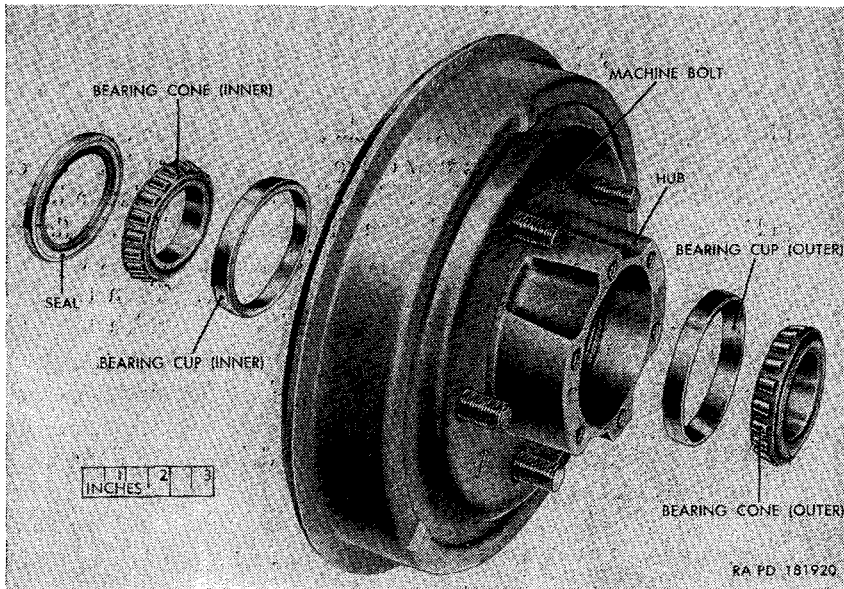

Figure 137. Front hub and drum, inner and outer bearing, and oil seal assemblies—exploded view.
- (1) Follow the procedure described in paragraph 207a(1) through (7).
- (2) Using a brass drift, tap the hub (inner) bearing cone and hub bearing oil seal (fig. 137) out of the hub. Discard oil seal.
- (3) Install the remover and replacer 41-R-2374-845 and screw 41-S-1047-330 (fig. 138) in the hub bearing cup (inner) (fig. 137) and drive the cup out of the hub. Reverse the hub and, with the remover and replacer 41-R-2374-845 and screw 41-S-1047-330, drive the hub bearing cup (outer) from the hub.
- (1) Insert the small inside diameter end of the hub bearing cup (outer) (fig. 137) into the brake drum side of the hub. Place the remover and replacer 41-R-2374-845 and screw 41-S-1047-330 (fig. 138) in the hub and drive cup into position.
- (2) Insert the small inside diameter end of the hub bearing cup (inner) (fig. 137) into the brake assembly side of the hub. Place the remover and replacer 41-R-2374-845 and screw
- (3) With the small end of the bearing cone taper toward the brake drum, insert the hub bearing cone (inner) (fig. 137) into the hub.
- (4) Place a new hub bearing oil seal in the brake assembly side of the hub, with the lip of the seal facing the cone. With a soft mallet, tap on the seal until it is flush with the hub.